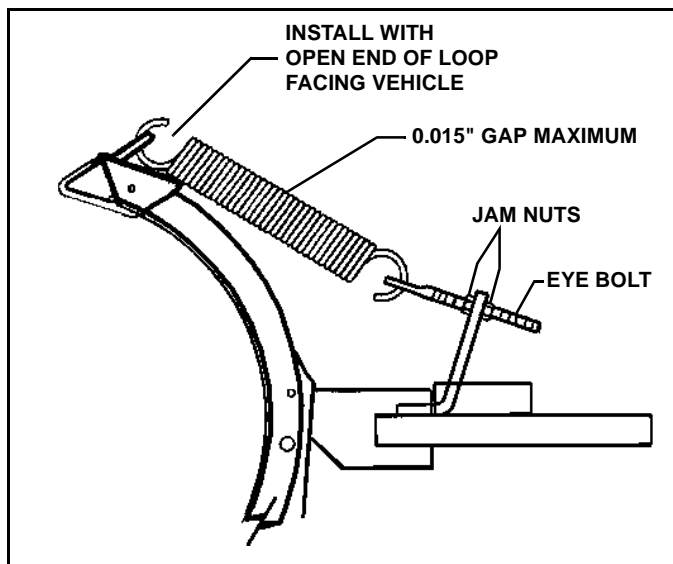

Figure 2-2
**4a. 18SKD, 22SKD, 25SKD & 26SKD SERIES BLADES:** Only one set of eyebolt mounting holes are present in the swing frame spring brackets on these models. A jam nut on either side of the spring bracket secures each eyebolt and provides for adjustment. (See Figure 2-2)